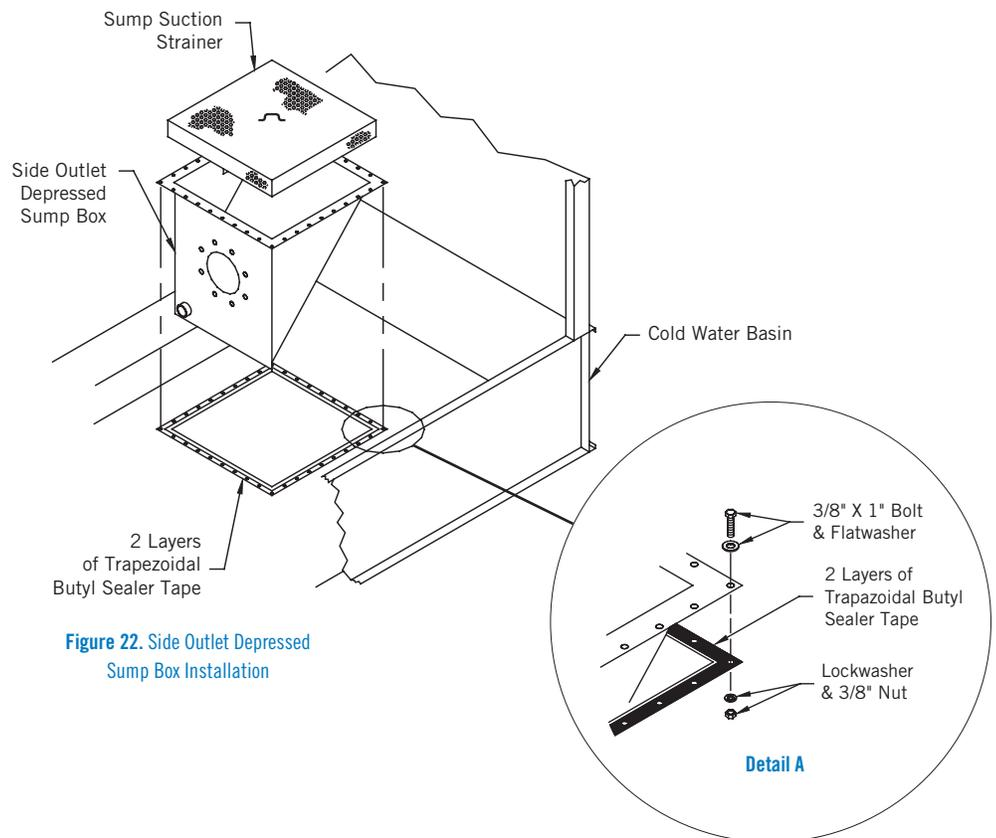

Figure 22. Side Outlet Depressed Sump Box Installation
2. Apply a layer of trapezoidal butyl sealer tape (BAC part #554009) around the opening in the basin over the centerline of the holes. Do not stretch the sealer tape too thinly or overlap at the corners. When it is necessary to splice the sealer tape, be sure to press the two ends together to form a smooth continuous strip. Apply a second layer of trapezoidal butyl sealer tape (BAC part #554009) over the first layer following the same procedure. Refer to **Figure 22**. The sealer tape needs to be positioned between the sump box and the inside basin bottom centered over the bolt holes.
3. Insert the sump box assembly into the opening in the cold water basin and attach it to the basin with 3/8" x 1" bolts, flat washers, lock washers, and nuts as shown in **Figure 22, Detail A**.